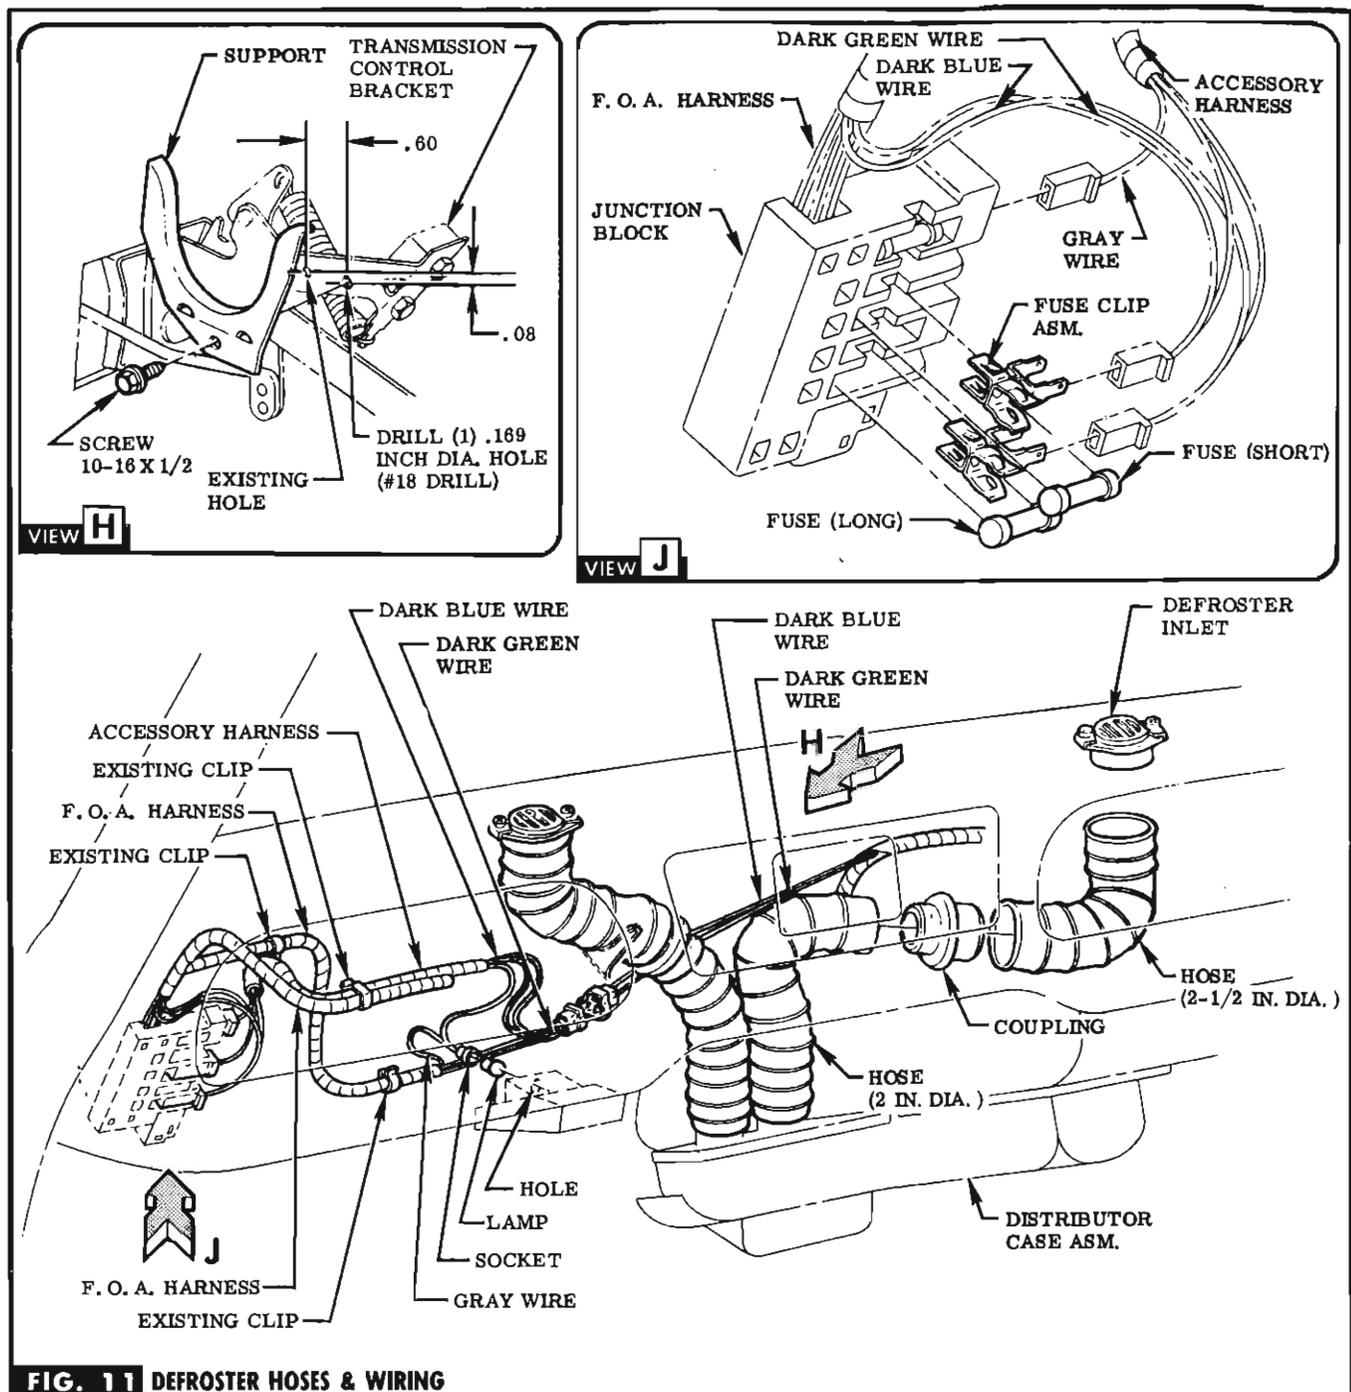

FIG. 11 DEFROSTER HOSES & WIRING
STEP 59 REMOVE GLOVE BOX. ASSEMBLE LONG & SHORT DEFROSTER HOSES USING COUPLINGS PROVIDED. INSTALL DEFROSTER HOSES ON INLETS & DISTRIBUTOR CASE. SEE FIG. 11. REPLACE GLOVE BOX. **NOTE** If automatic transmission exists route L. H. hose over hose support.
STEP 63 UNTAPE GRAY, DARK BLUE & DARK GREEN WIRES FROM HARNESS. INSERT LAMP INTO SOCKET ON GRAY WIRE & PLUG INTO BACK OF CONTROL. CONNECT DARK BLUE & DARK GREEN WIRES TO HEATER HARNESS WIRE. SEE FIG. 11.